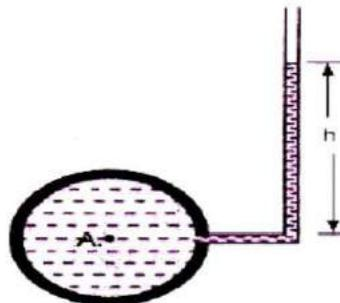

Fig. 2.5 Piezometer
- It consists of a glass tube inserted in the wall of the vessel or pipe at the level of point at which the intensity of pressure is to be measured as shown in Fig. 2.5. The other end of the piezometer is exposed to air. The height of the liquid in the piezometer gives the pressure head from which the intensity of pressure can be calculated.